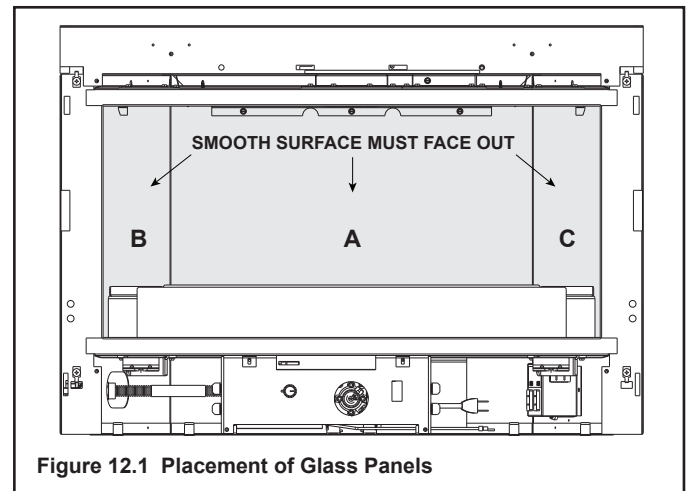
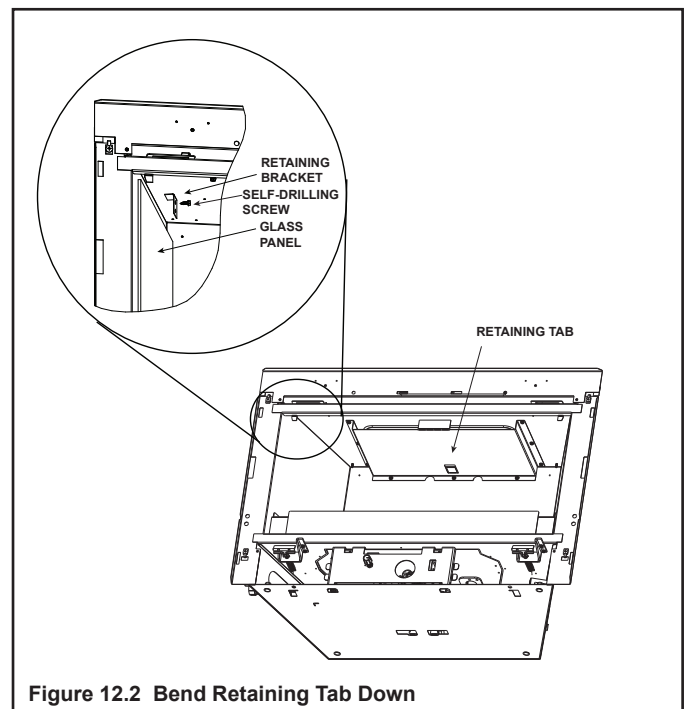

Figure 12.1 Placement of Glass Panels
Figure 12.2 Bend Retaining Tab Down
1. Install back glass panel (see Figure 12.1). Bend retaining tab down to hold back glass panel in position (see Figure 12.2).
2. Install left glass panel (see Figure 12.1). Install retaining bracket with the self-drilling screw provided to hold the left glass panel in position (see Figure 12.2).
3. Install right glass panel (see Figure 12.1). Install retaining bracket with the self-drilling screw provided to hold the right glass panel in position (see Figure 12.2).